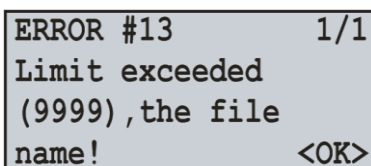

Figure 6.5 – The message about an error when the file name reaches the limit
When the file size reaches the user defined limit (32 KB – 512 MB), the data logger automatically creates a new file with the following name “FILE0002.RDF”. When the file name reaches the maximum (“FILE9999.RDF”), the recording process will be terminated and on the data logger display there will be a message about an error shown in the figure 6.5. The LED indicator **RECORDING** (Fig. 1.2, item 2) will start flickering indicating that there is a mistake in the data logger operation.